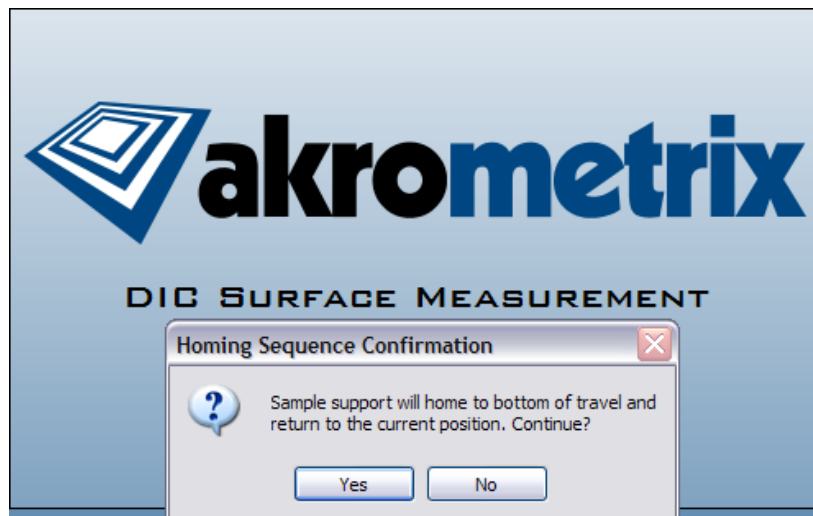

Figure 4.1 Homing Sequence Confirmation
4. When the Homing Sequence Confirmation Dialog is displayed (**Figure 4.1**), press **Yes** to continue program initialization. The TherMoiré sample support stage will home.